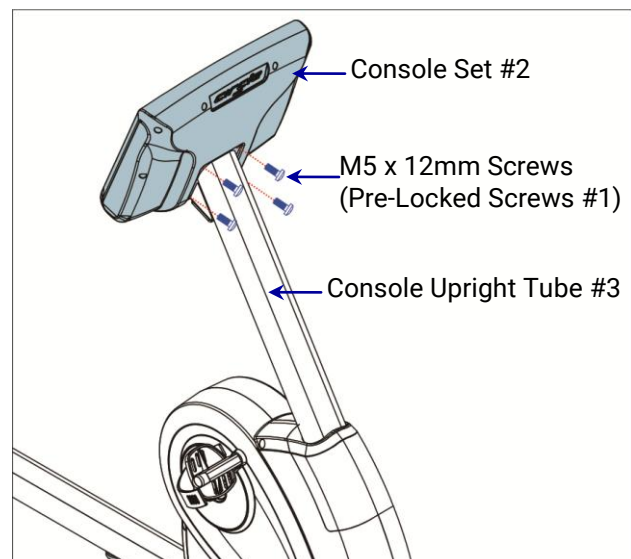

Fig 2.5-7B
- 4) Re-tighten (4) **M5 x12mm Screws (Pre-Locked Screws #1)** with 6mm Allen Wrench to fix the **Console Set #2** on the **Console Upright Tube #3**. (Fig 2.5-7B)